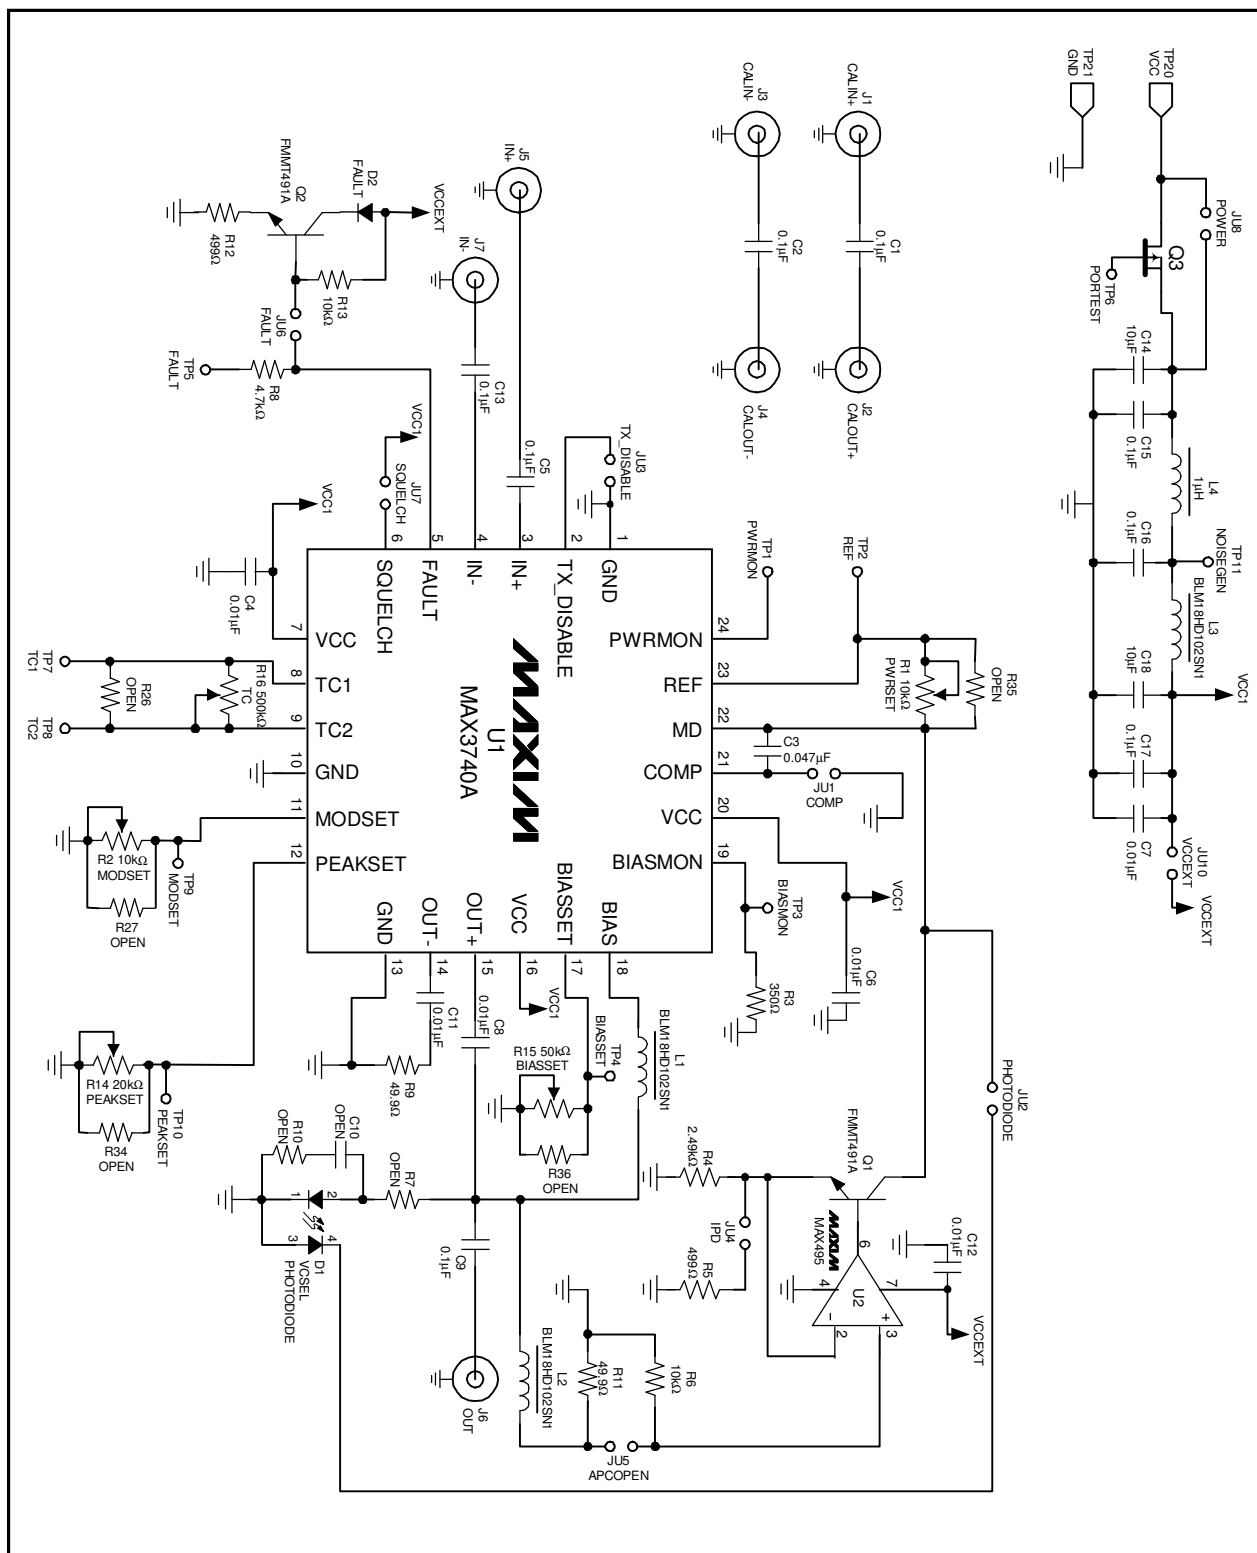

Figure 1. MAX3740A EV Kit Schematic Diagram
- 5) Connect a common cathode VCSEL as shown in Figure 1. Keep leads short to reduce reflection.